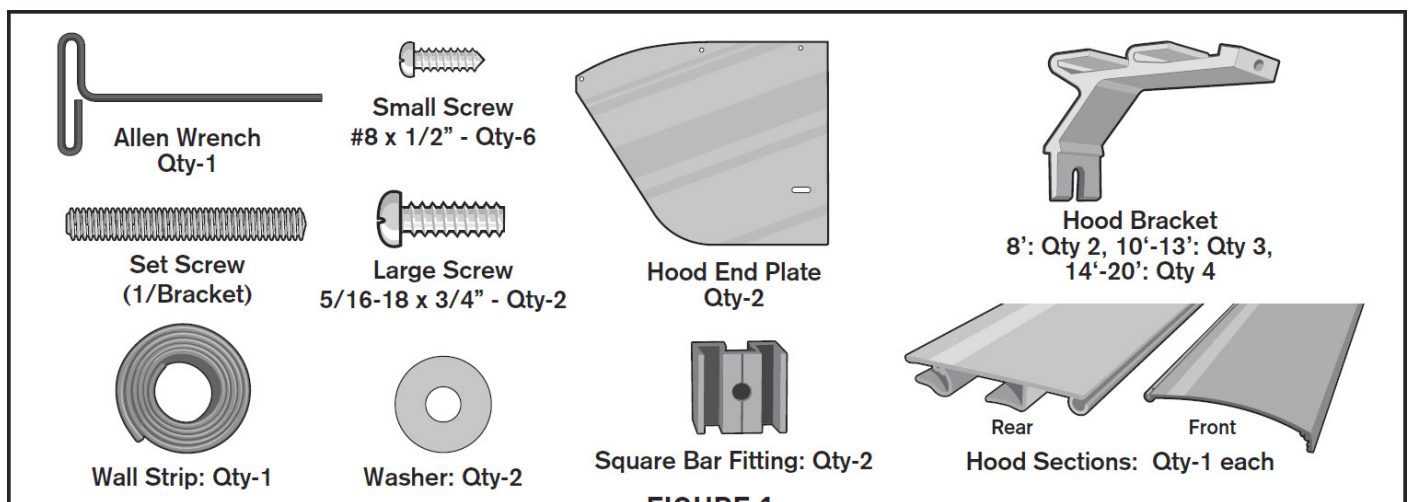

FIGURE 1
1. Before beginning, please familiarize yourself with the components of the Aluminum Hood. See **Figure 1.**